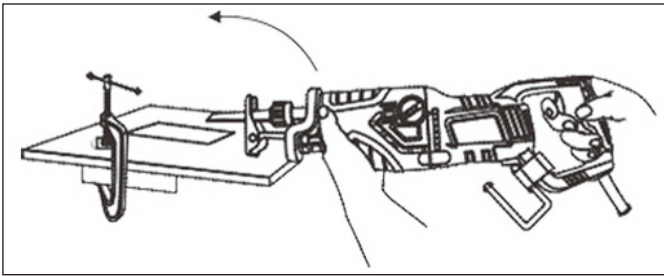

FIG. 6
2. Clamp the workpiece to a workbench or table (Fig. 6).